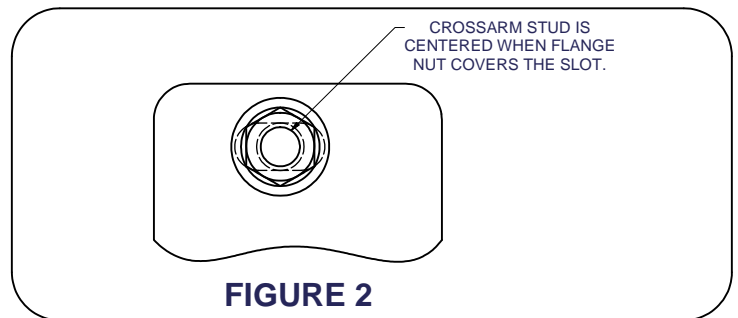

FIGURE 2
- 4) Rotate the crossarms until they contact the truck bed. Center the rear crossarm studs in the side plate slots as shown in **Figure 2**. Use a 15/16" wrench to tighten the 5/8" flange nuts on the rear crossarm to the side plates.(Use the tube spacer for correct spacing between the crossarms.) Repeat for front crossarm. **(Note: Do not tighten crossarms until center section installation is complete.)**